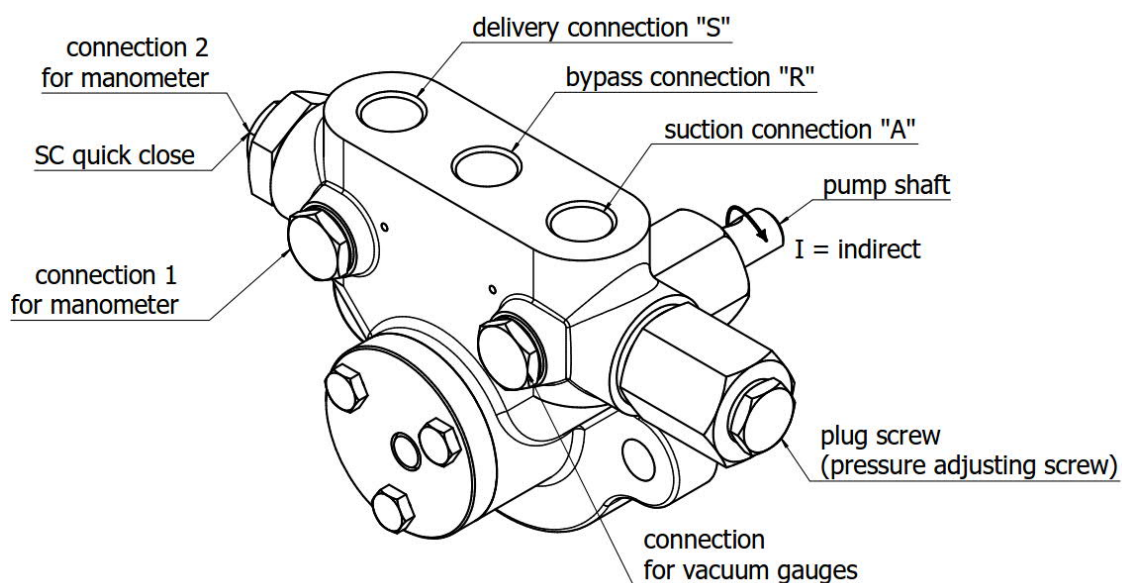

Fig. 1. (Example for direction of rotation „I“)
- The suction connection (see Fig. 1) of the pump is filled with oil. Then the suction line is connected to thread connection „A“.
- The pressure/delivery line connect to thread connection „S“ and the bypass line connect to thread connection „R“. When the pump is realized with SC (quick close) connection, the delivery line connect to SC. (Fig. 1)
- Remove the screw plug for connecting the manometer 1 / vacuum gauge (Fig. 1). The pressure gauge connected to port „A“ it shows the suction pressure and the pressure gauge connected to port „S“ it shows the delivery pressure. The pressure gauge connected to manometer 2 shows the delivery pressure. Observe using manometers with the right pressure range (according to the pump's pressure range).
- For pressure regulation, the plug screw (see Fig. 1) must be removed.